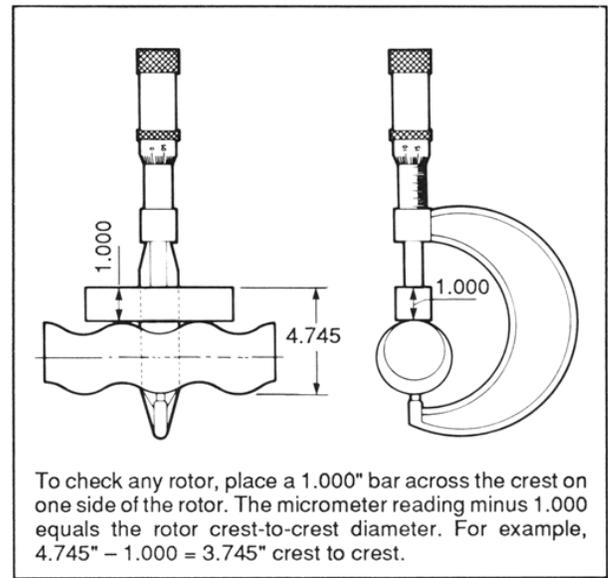

Figure 4-3. Measuring Rotor Dimension
1. To check for excessive wear of the rotor (34), measure the rotor crest-to-crest diameter (see Fig. 4-3) and compare it with the following chart.